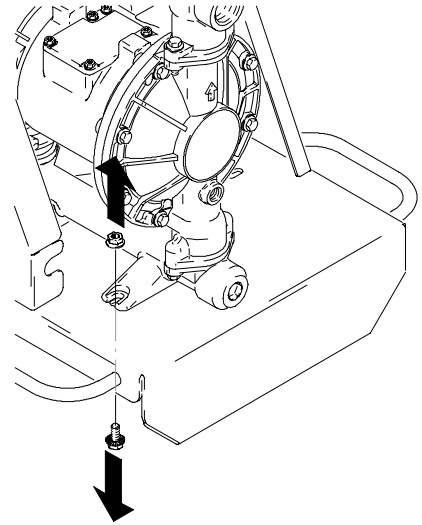

Fig. 12
5. Remove 4 bolts holding pump to cart. Fig. 12.